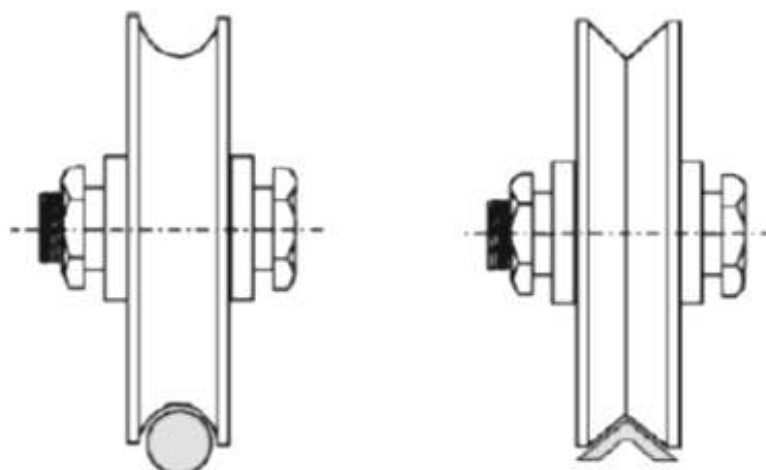

Fig. 4
Fasten the limit stop plates (Cams G) of the motor on the rack, (Fig. 4)
- Check that the wheels (**Fig. 4**) used are suitable for the type of runner on the ground